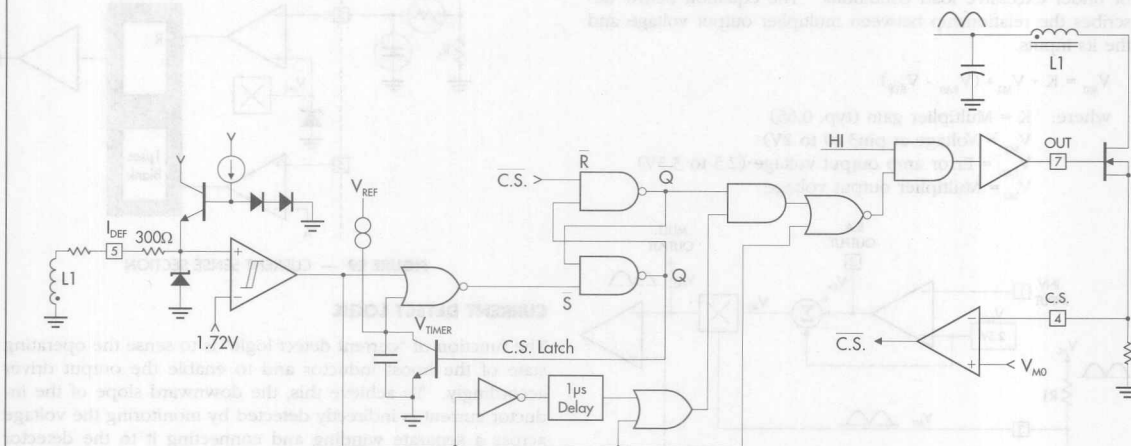

FIGURE 30 — START-UP TIMER & CURRENT DETECT LOGIC CIRCUITRY
The function of "current detect logic" is to sense the operating state of the boost inductor and to enable the output driver accordingly. To achieve this, the downward slope of the inductor current is indirectly detected by monitoring the voltage across a separate winding and connecting it to the detector input " $I_{DET}$ " pin. Once the inductor current reaches ground level, the voltage across the winding reverses polarity and changes the " $I_{DET}$ " input and the comparator output to the low state (See Figure 30). When comparator changes state, it sets the latch and turns on the output driver for a period of 1μs (typ.) regardless of any changes in the latch output ( $\bar{Q}$ ) within this period. This ensures that if the C.S. comparator changes state due to any turn-on spike, the driver output remains on and does not turn off prematurely.
A start-up timer circuit eliminates the need for an external oscillator when used in stand alone applications. The timer, as shown in Figure 30, provides a means to automatically start the pre converter if the latch output  $\bar{Q}$  comes up in a wrong (HI) state. The timer capacitor ramps up and resets the latch to a low state, turning the output driver on.